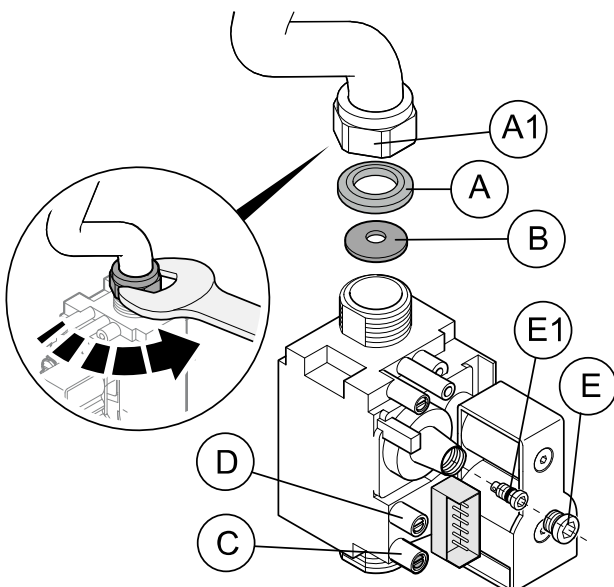

Figure 1
H.3 Gas valve adjustment (refer to Figure 1)